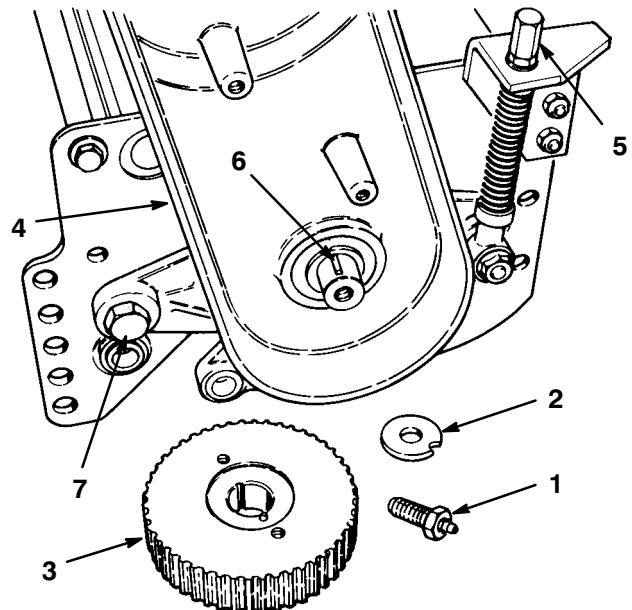

Figure 31
6. Remove the reel capscrew, toothed washer, and pulley washer from the reel shaft (Fig. 31).
7. Using a puller, remove the driven pulley from the reel shaft (Fig. 31). Remove the woodruff key from the reel shaft.
8. Remove the adjustment assembly and cone nut, Belleville washer, and shoulder bolt securing the housing to the sideplate (Fig. 31). Remove the housing.
10. Ensure the slot in the pulley washer is aligned with the roll pin in the pulley and install the washer, toothed washer, and reel capscrew (Fig. 31). Apply a medium strength thread locking compound to the reel capscrew during assembly. Torque the capscrew to 45-55 ft.-lb.